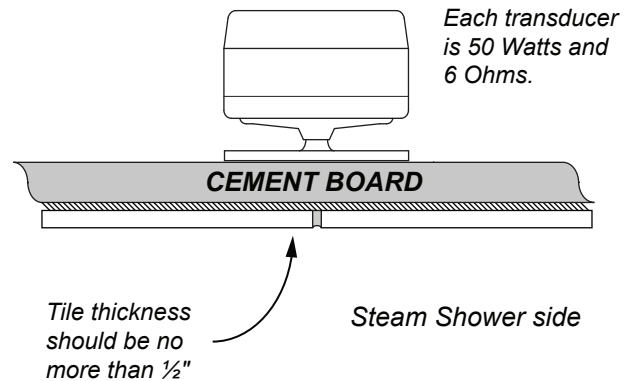

Figure 3
2. Speakers should be mounted on opposite sides of the room. Center between the joist/studs (See Figure 3).